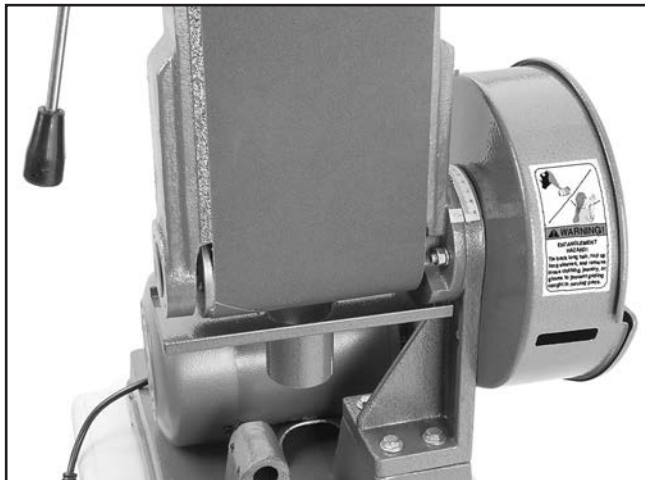

Figure 63. Sanding belt tilted to 90° position.
6. Raise the sanding belt frame until it reaches the 90° mark (or the desired angle) on the tilt scale, as shown in **Figure 63**, then tighten the rotation lock nuts.